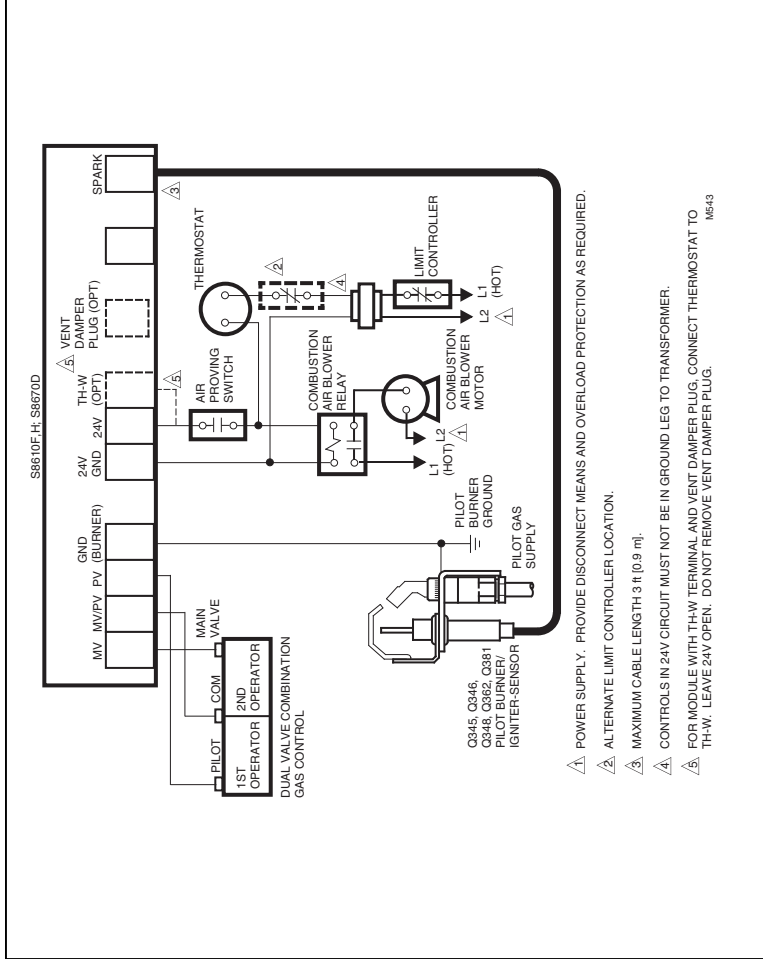

Fig. 6—S8610F,H; S8670D in a heating system with power-assisted combustion.
- Figs. 6 through 11 show S8610F,H and S8670D in a variety of systems with alternate connections for modules with vent damper plug. Remember, however, that a vent damper should not be used in an fan-assisted combustion system or an LP gas system and that the vent damper plug must not be removed except to connect the module to a D80D with the plug-in cable. S8610A,B can be substituted in these drawings by simply connecting the igniter and sensor as shown in Figs. 4 and 5.